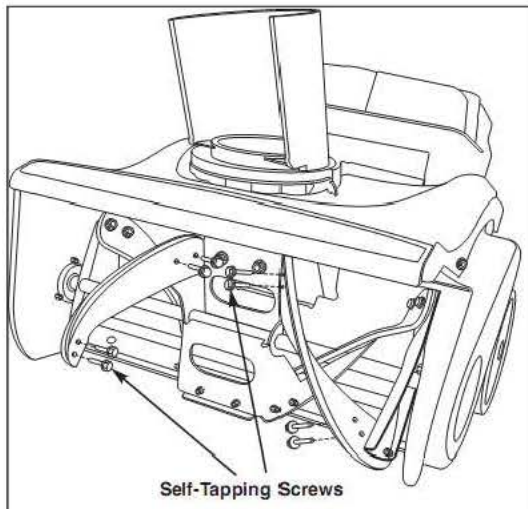

Figure 21
1. Remove the existing rubber paddles by unthreading the self-tapping screws that secure them to the auger. See figure 21.